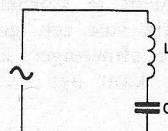

Fig.3
4. In fig. 3 is $L = \frac{4}{\pi} \text{ H}$, $C = \frac{1}{6\pi} \mu\text{F}$.